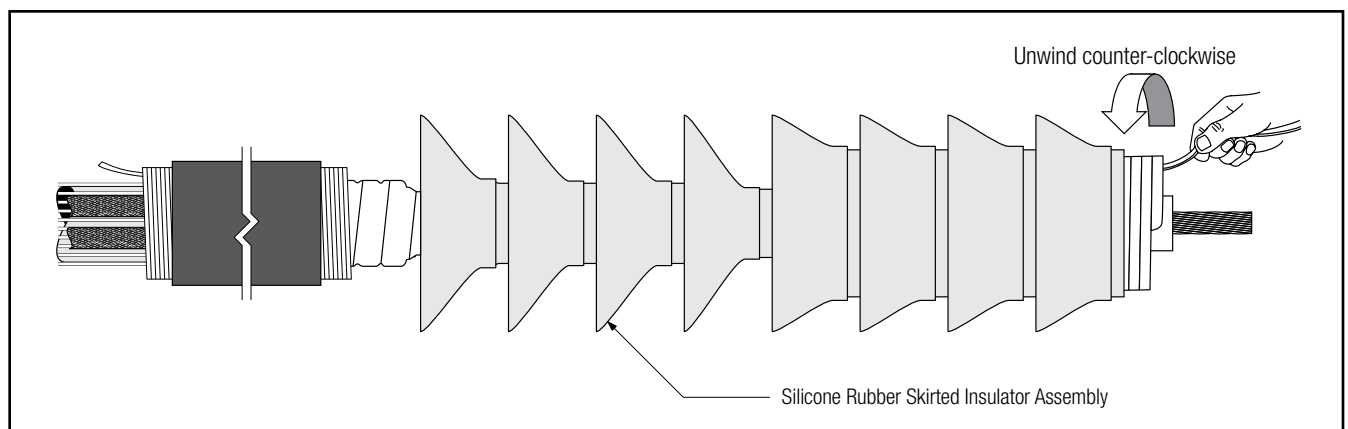

Figure 25
- 6.6 Slide the Silicone Rubber Skirted Insulator Assembly onto the cable. Align the assembly tube (not the core) with the end of the sealing mastic/constant force spring cover tape located 3.0" (76 mm) from the end of the cable semi-con. Remove the core by pulling the loose end while unwinding counter-clockwise. (Figure 25)